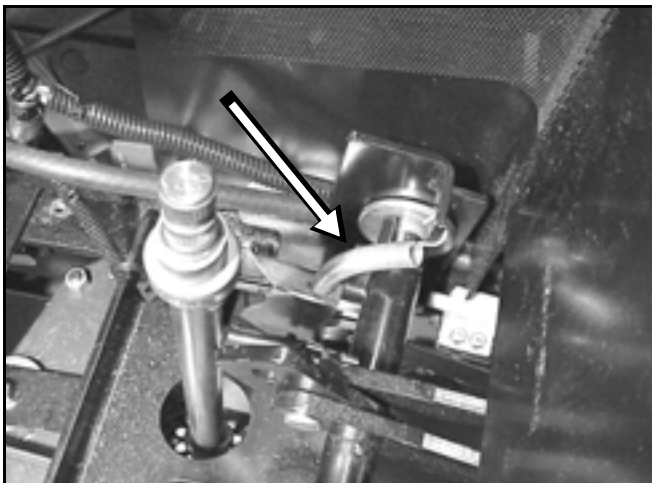

Figure 66
6. Remove spring for the brake assembly (Figure 66).